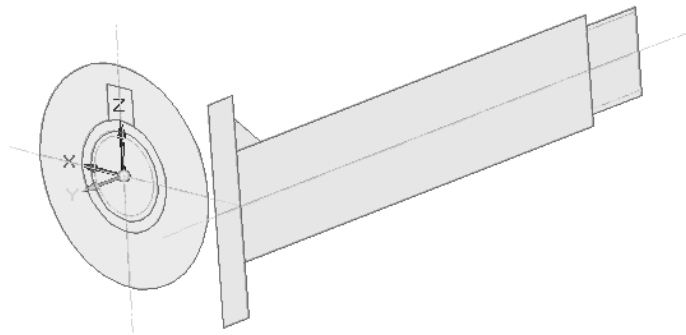

Figure 12-49 Aligning the views perpendicularly
8. Choose the **Finish** button; the views are oriented perpendicular to each other, as shown in Figure 12-49.